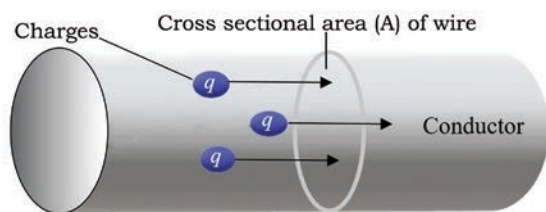

Fig. 1.12 Flow of charge through a cross section 'A'
Electric charge, often called current, is the flow of electrons. These electrons carry charge. The electrons flow from one place to another. Moving electrons generate more charge. The amount of charge with electrons flowing from one place to another is called electric current (Fig. 1.12). The unit of measuring current is ampere (A). The symbolic representation of current is 'I' or 'i'. 'I' is for DC current and 'i' for AC current. Mathematically, it can be written as